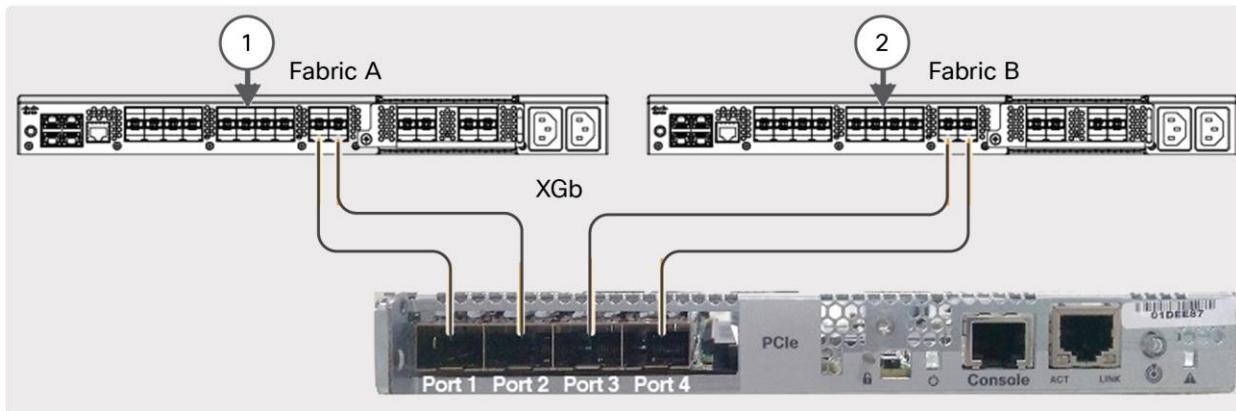

Figure 24.
2. Connect the new cables as shown in Figure 24 below.